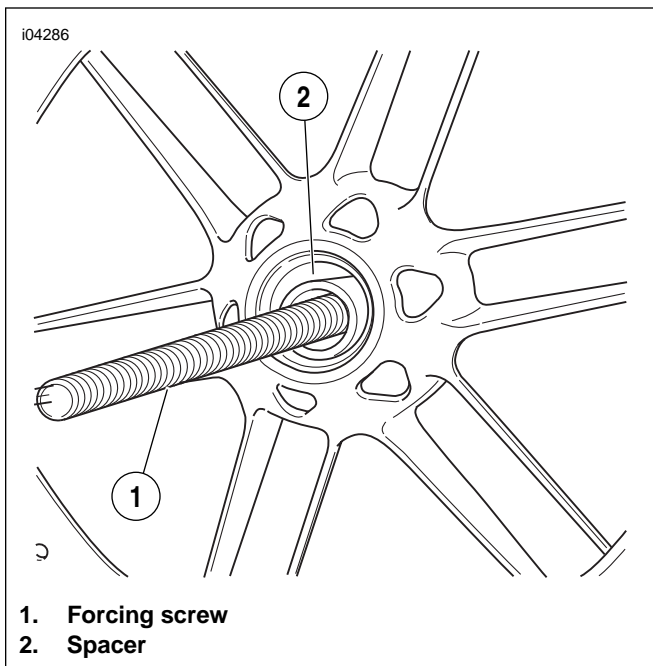

Figure 2-16. Install the Spacer
See Figure 2-16. Center the spacer (2) while installing the wheel bearing. Failure to center the spacer could cause the bearing not to pull in straight.